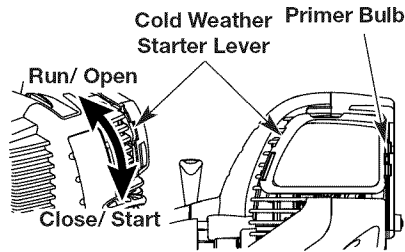

Fig. 7
IF COLD... For cold weather conditions (below 40°F), flip the Cold Weather Start Lever (Fig. 7) down to the start/closed position and continue to step 3. **DO NOT** flip this lever down if the temperature is above 40°F.
3. Fully press and release the primer bulb 10 times, slowly. Some amount of fuel should be visible in the primer bulb (Fig. 7). If you can't see fuel in the bulb, press and release the bulb as many times as it takes before you can see fuel in it.